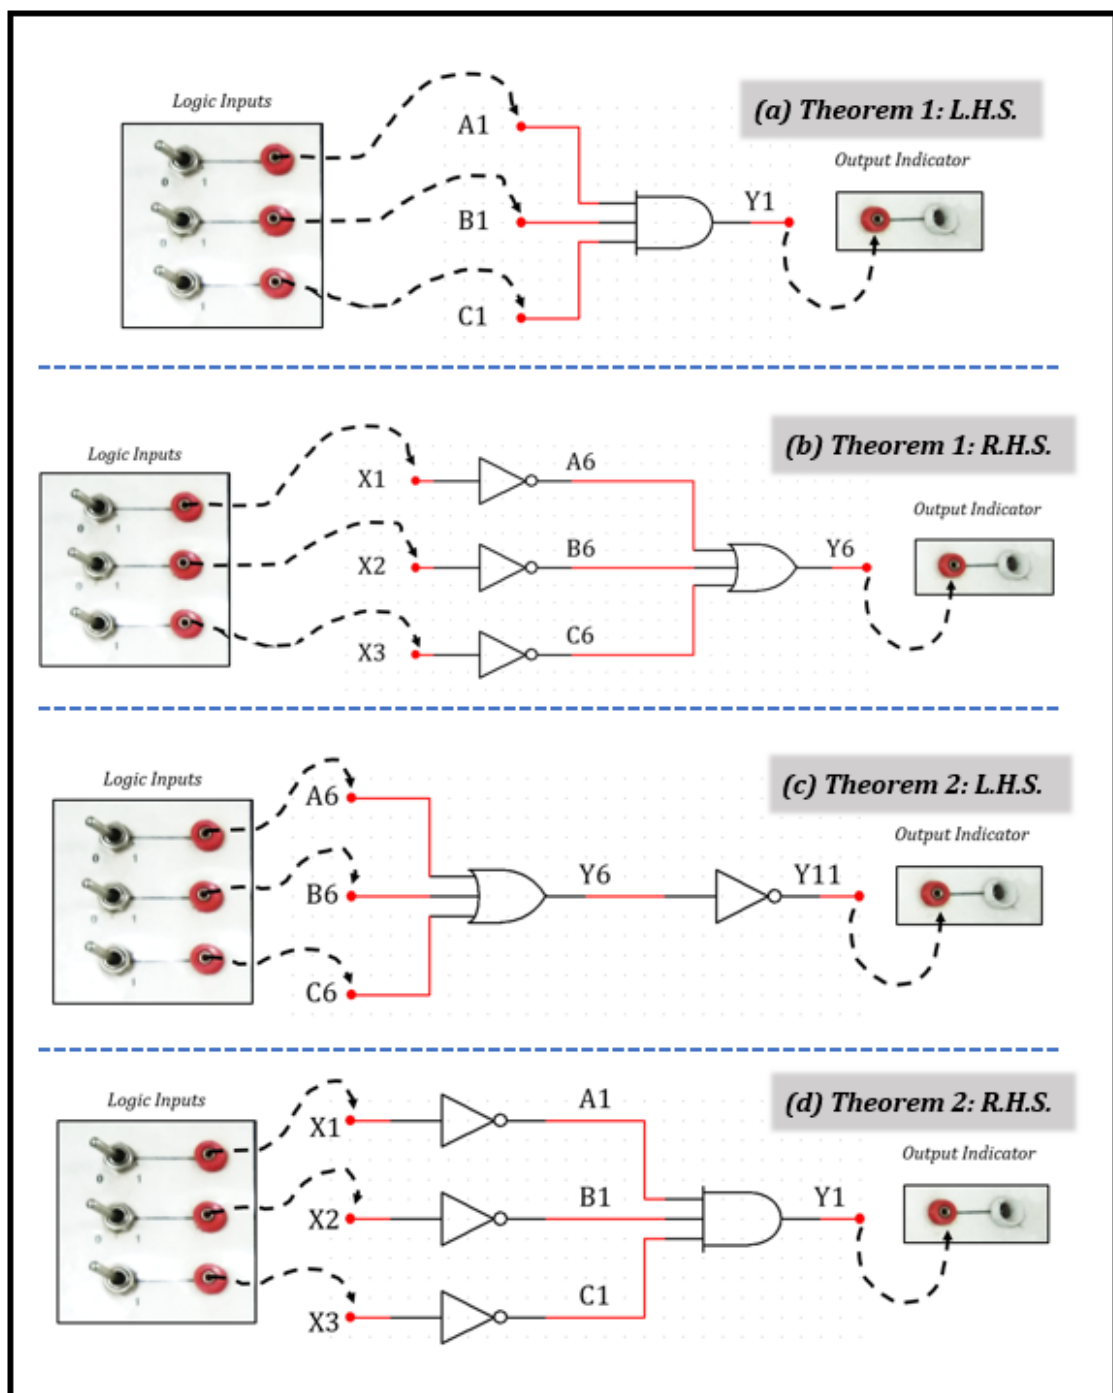

Fig. 2.2: Connection diagram for testing De-Morgans Theorem.
- In order to test Theorem 1, make all the connections properly as per Fig. 2.2.